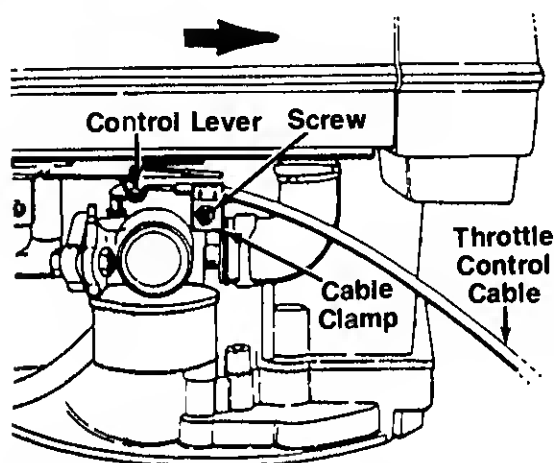

FIGURE 5B.—Model 120899R
2. The throttle control cable is attached to the upper handle. Route the throttle control cable under the lower handle and to the outside of the handle wheel bracket assembly and height adjustment lever. Hook the "Z" end of the throttle control cable into the control lever on the engine as shown in figure 5B or 5C.
3. Loosen (do not remove) the screw on the cable clamp shown in figure 5B or 5C. Slip the control casing under the clamp (cable must move freely beneath the clamp).